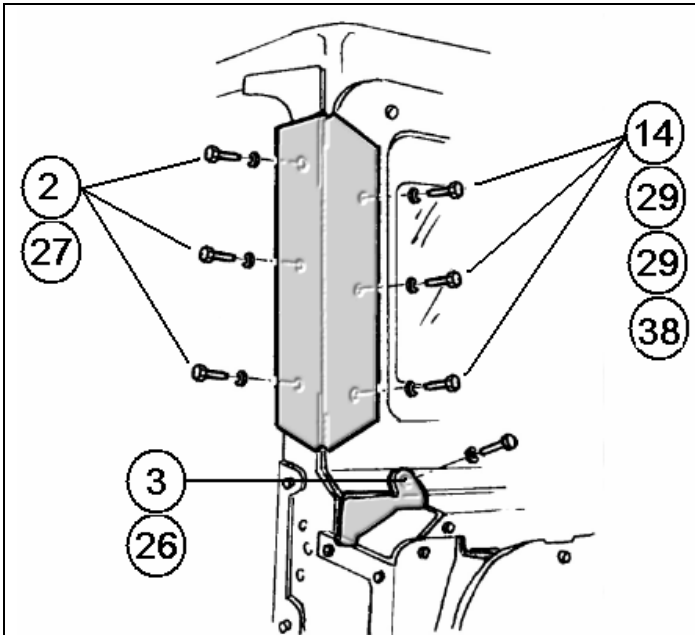

Figure 5-84. Windscreen Kit Installation -
7. Install the A-pillar overlaps #845 and #846 at the corners and the corner fairings, #842 and #843 per Figures 5-84 and 5-85.